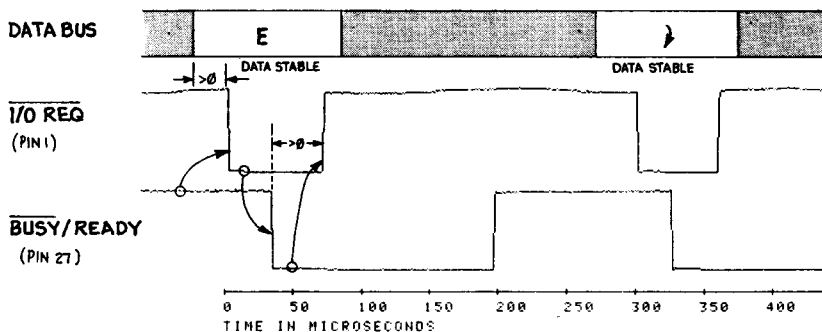

Figure 7.3 I/O REQ and BUSY/RDY timing diagram.
Note that above each I/O REQ strobe, the ASCII character being transferred is shown on the bus. There are eleven characters transferred to the CY525 in approximately 3300 microseconds. As may be seen the spacing is very regular, therefore the transfer time per character is about 300 microseconds. These times are for an 11 MHz crystal and should be scaled by $f/11$ for a crystal of frequency f . If we expand the timing diagram above and look at the first transfer only, we see that the CY525 actually completes the transfer of the character (E) and returns to the READY state within 200 microseconds. The extra 100 microseconds before the I/O REQ is pulled low (to signal the \downarrow on the bus) is actually delay caused by the master computer used in this example. If a faster computer were used, this could be decreased so that the minimum character transfer time of 200 microseconds per character is approached. This timing is shown below in figure 7.3.